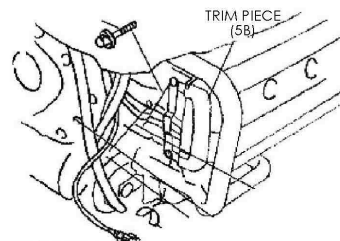

FIG. 5
9. USING THE 8MM WRENCH REMOVE THE TWO BOLTS (5A) HOLDING THE PLASTIC TRIM PIECE (5B) ON THE LEFT SIDE. INSTALL THE LEFT FOG LAMP (5C) BY USING THE LONG FLANGE COLLARS (5D), THE TWO MEDIUM SIZE SPACERS (5E), THE LONG SPACER (5F), THE LONG FLANGE BOLT (5G), AND WASHERS (5H). PLUG THE 2-PIN GRAY CONNECTOR (5I) INTO THE MOTORCYCLES 2-PIN GRAY CONNECTOR (5J). REMOVE THE PLUG COVER FIRST. THE MOTORCYCLE CONNECTOR MAY BE TAPED TO THE BIKE. THIS TAPE WILL HAVE TO BE REMOVED TO LENGTHEN WIRES. REFER TO FIGURE 5.